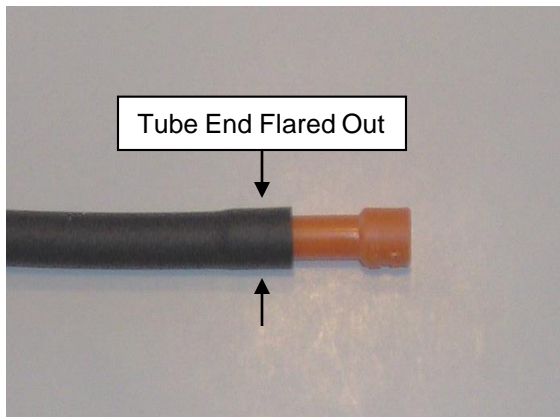

Figure 5
5.4.1 Do not use an Orange DE06MP Tube Plug to seal a 5.5mm ID TP2 plenum-rate tube. The over-sized plug is difficult to install and causes the end of the TP2 tube to flare out. **See Fig. 5.**